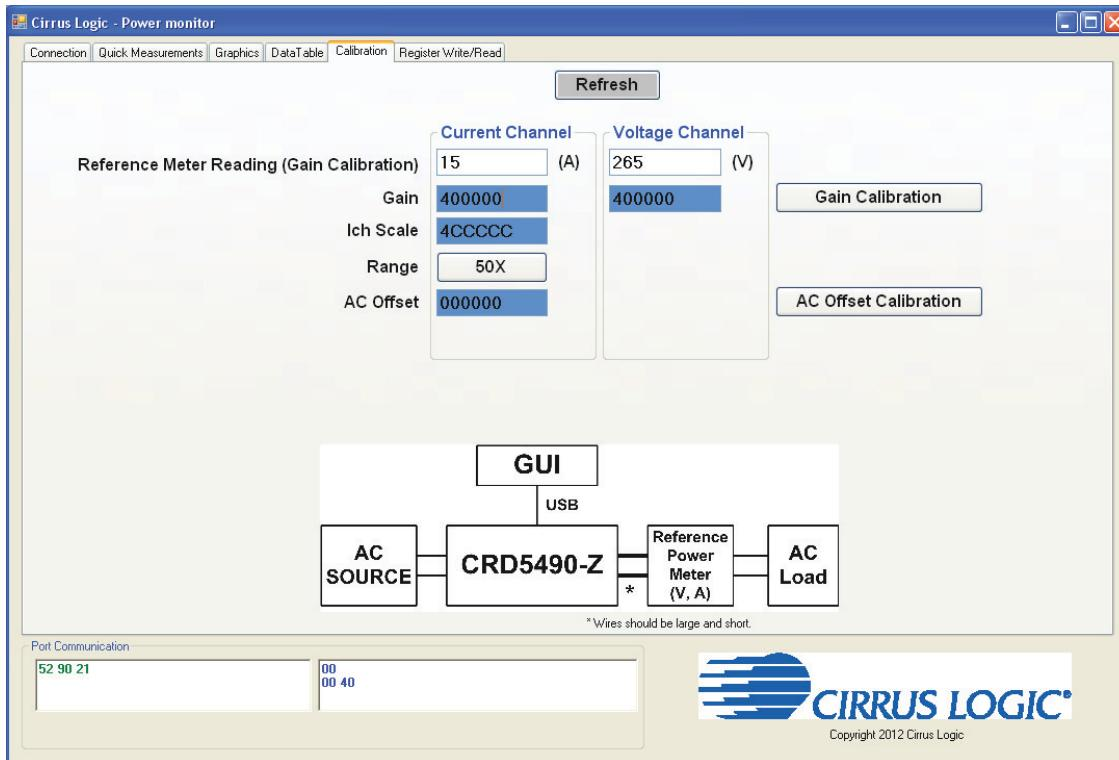

Figure 17. Calibration Tab with Initial Calibration Configuration
4. Confirm that the initial conditions are configured as shown in Figure 17: